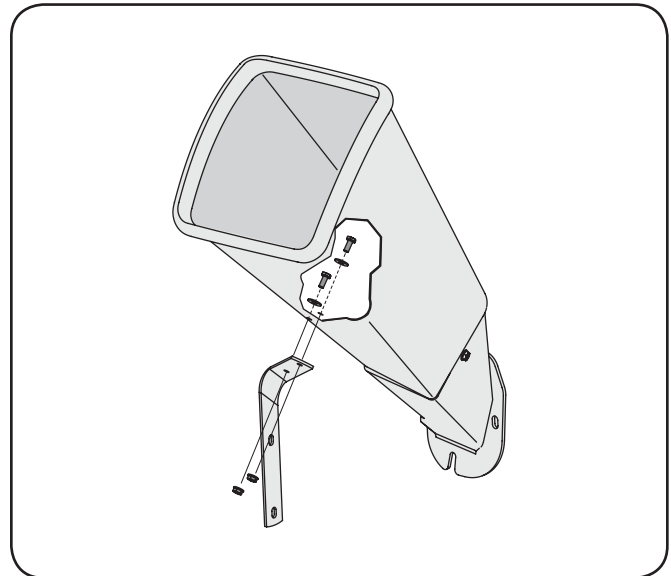

Figure 3-2
1. Loosen, but do not remove, the two hex bolts, flat washers, and flange nuts which are secured to the support bracket. See Fig. 3-2.